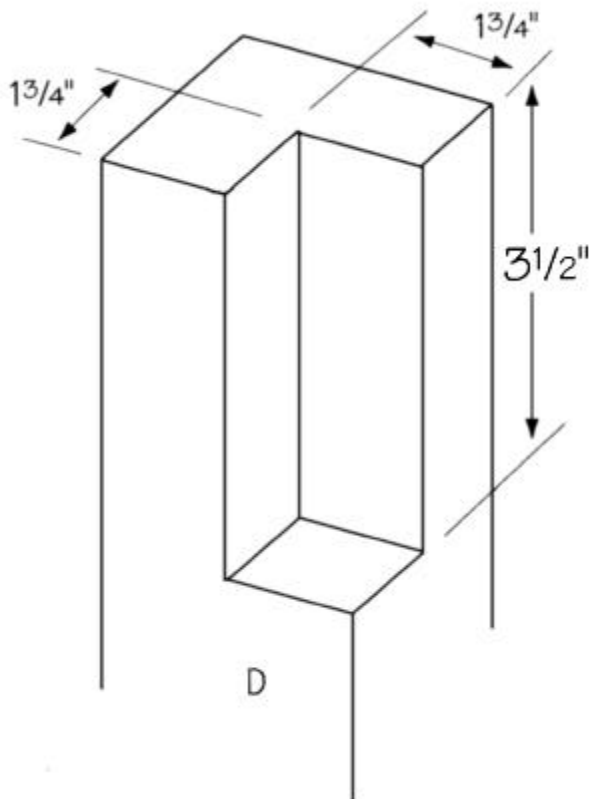

Figure 1
2. In order to support the side rails of the coffee table, we must remove a corner section of wood from the square top of each of the four legs (A). Follow *Figure 1* to mark the area to be removed. Use a depth stop or simply wrap a piece of tape around a 1/2-inch or 3/4-inch drill bit approximately 1 3/4-inch from the end. Bore away as much waste as possible. Then use a sharp chisel to cut an accurate, rectangular space, as shown in *Figure 1*.